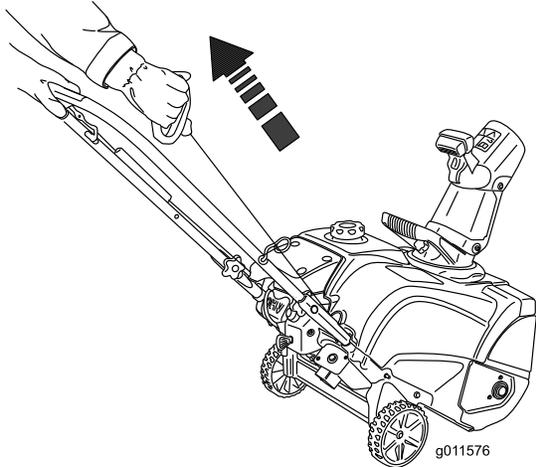

Figure 19
4. Connect an extension cord to a power source and the machine, and push the electric-start button (electric start only) as shown in Figure 18), or pull the recoil-start handle (Figure 19).